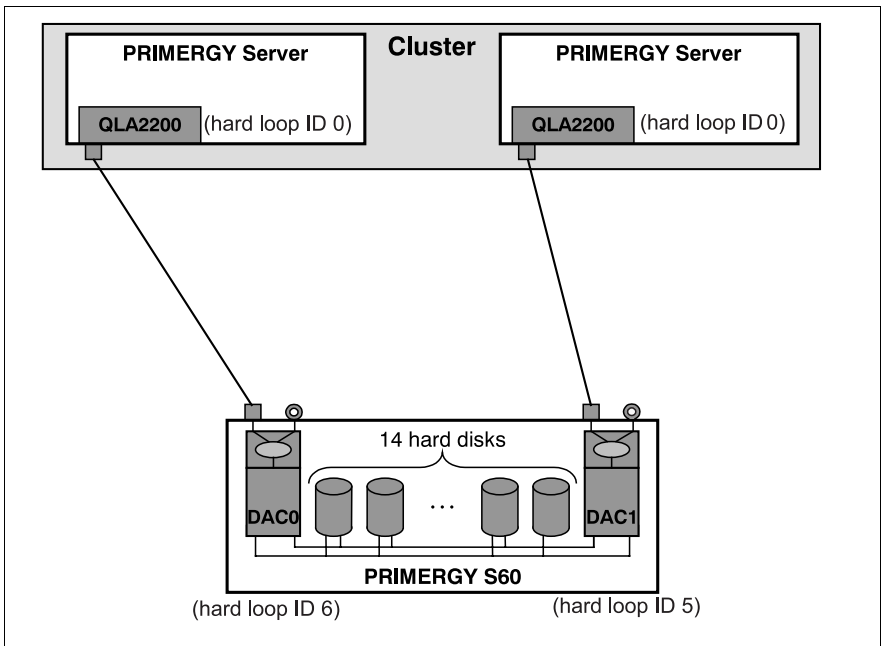

Figure 22: Entry Cluster with Dual RAID Controller
- Loop IDs (see figure 22 on page 31)